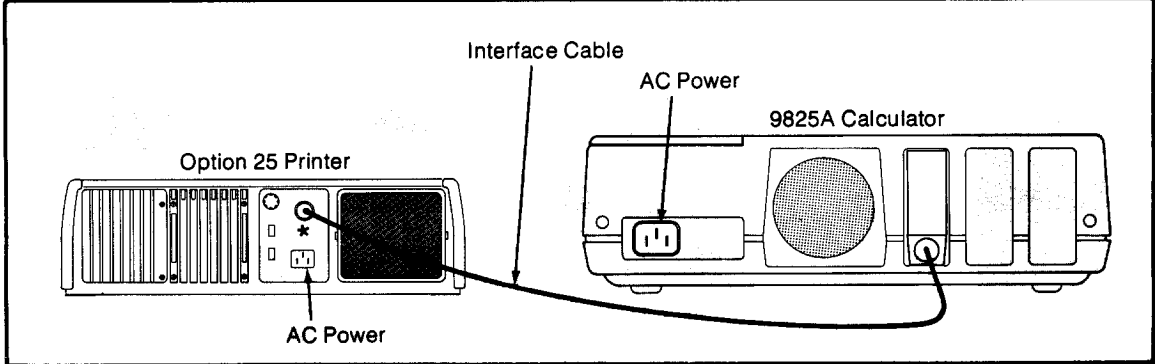

Figure 2. Printer Interface Typical Connections
4. If you are using the printer with a 9800-Series Calculator, connect the interface cable as shown in Figure 2. If the printer is not to be used with a 9800-Series Calculator, refer to the interfacing information in the service manual (HP Part No. 09866-90031) supplied with the printer.
Since all calculator peripheral devices are connected in a "party-line" fashion, each device must have a unique 'address' so that the calculator can specify which device should respond to each operation. The printer address (or select code) consists of a one or two-digit number and is determined by the circuits on the interface card (see Figure 2). Each calculator-to-printer command must include the correct select code, thereby specifying which interface card is to respond to which operation. The following paragraphs describe select code settings with each option printer.